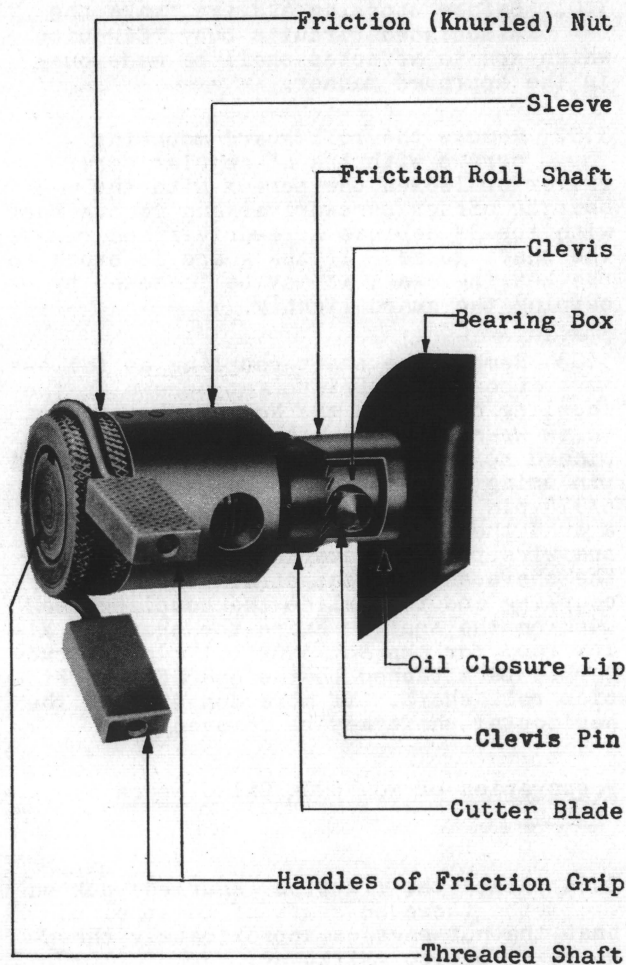
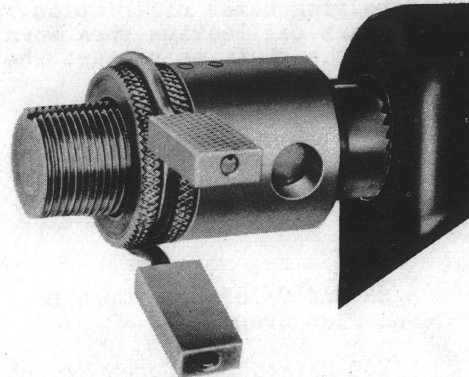

Fig. 1 - No. 590A Oil Closure Cutter
Fig. 2 - Position of No. 590A Oil Closure Cutter Before Start of Cut
3.06 Place the clevis of the threaded shaft over the end of the friction roll shaft and then place a clevis pin through the hole as shown in Fig. 1. The pin shall be positioned so that it will be slightly underflush in the holes of the clevis. With the tool in this position slide the sleeve and cutter blade over the clevis pin and turn up the nut until the cutter blade touches the oil closure lip as shown in Fig. 2.